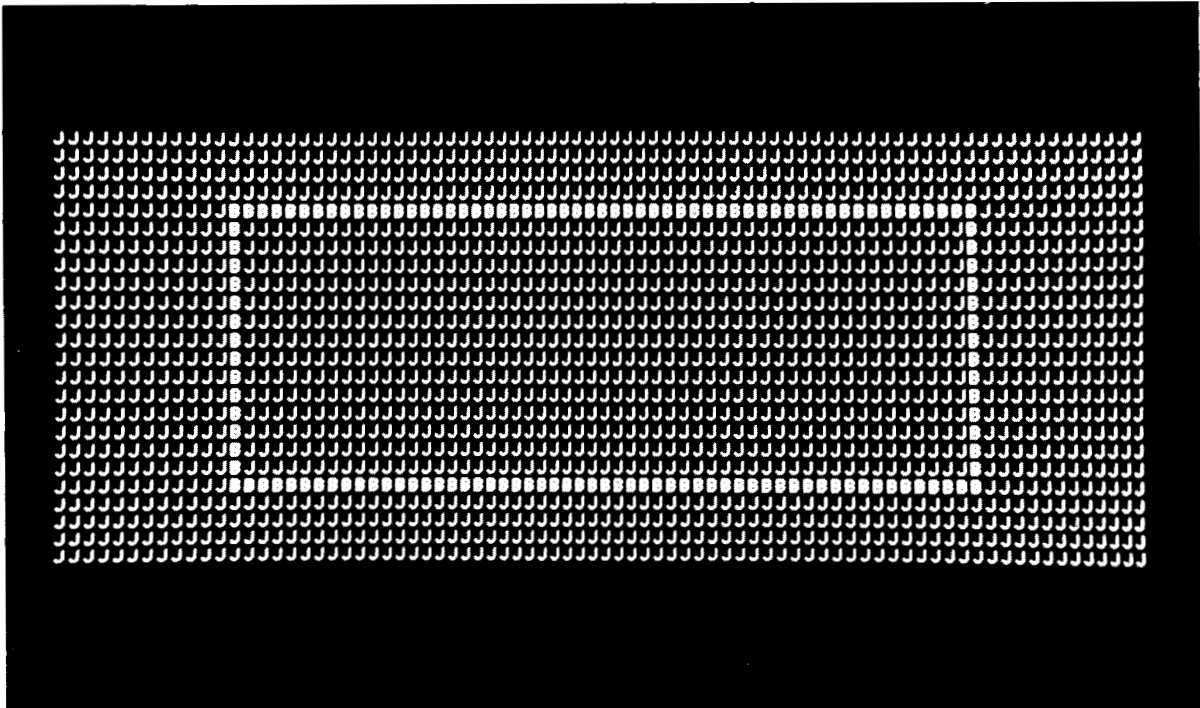

Figure 2-11. CRT Test Pattern 3
- e. The focus pattern {B}s and {J}s (CRT test pattern 3) shown in figure 2-11. This remains for about 3 seconds.